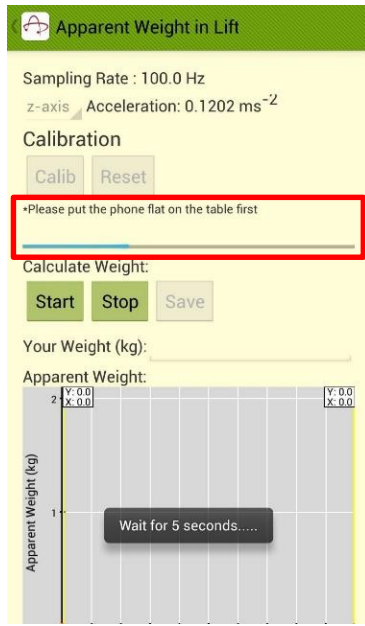

Fig 5.8
- Place the device on a flat surface and press “Calib”. Wait for 5 seconds to calibrate the error in the axis (Fig 5.8). The measurement cannot be started before calibration.